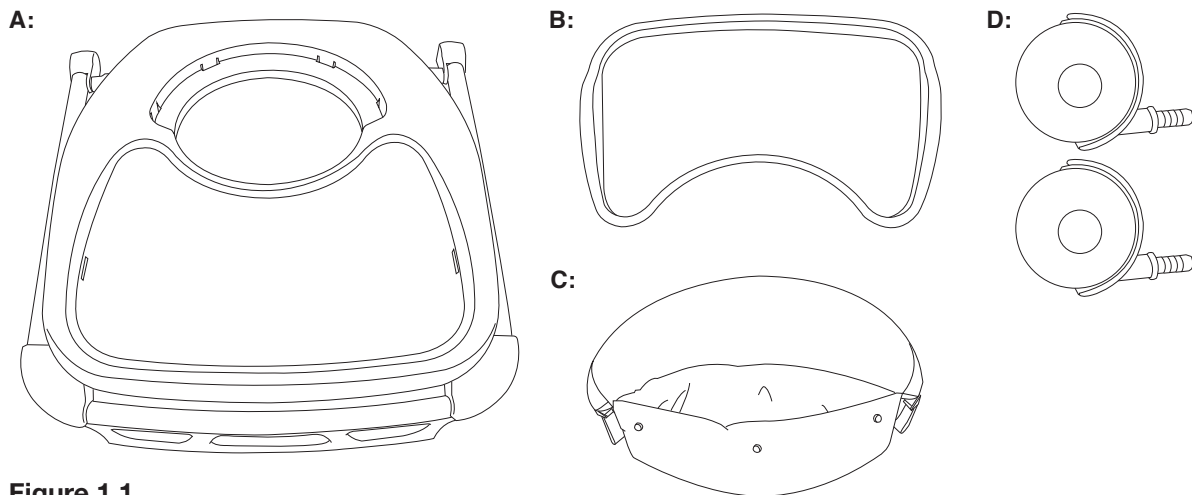

Figure 1.1
- Remove everything from the box and identify the parts using **Figure 1.1**. (not to scale)